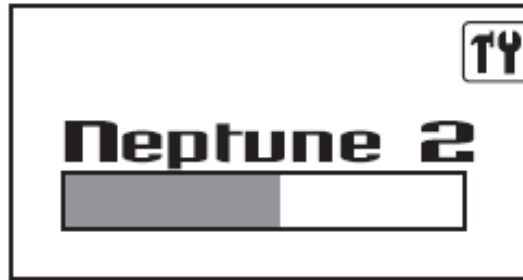

Figure 7: Neptune Splash Screen
22. Once the Neptune 2 splash screen appears, continue to push the display button until the tools indicator in the upper right corner is highlighted solid white (see figure 7)